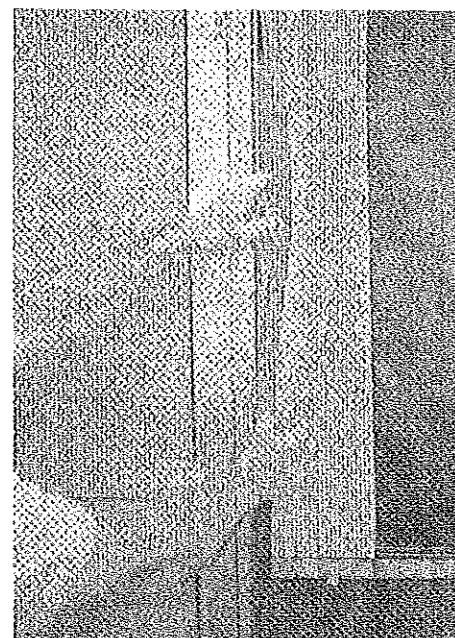

FIGURE 22
6. Step outside trailer and starting at the base of the tent material, press the tent weather seal on either side of the door frame into the weather seal groove on the door frame. See Figure 22. Fasten tent retainer patches to the door frame and body rail with the mating velcro. See Figure 24.